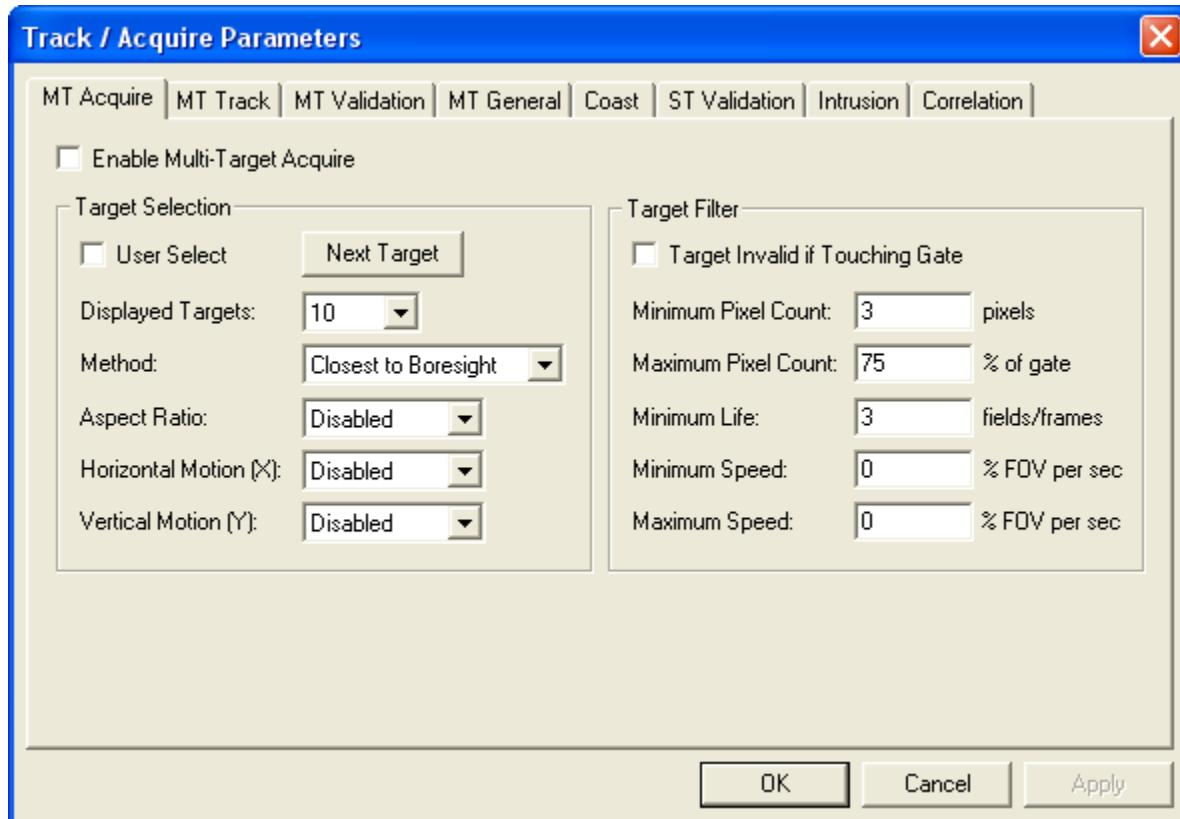

Figure C3.8. MT Acquire Control Screen
The **MT Acquire** tab (Figure C3.8) of the Track/Acquire Parameters dialog contains all the acquisition parameters to filter and prioritize up to ten (10) potential targets.